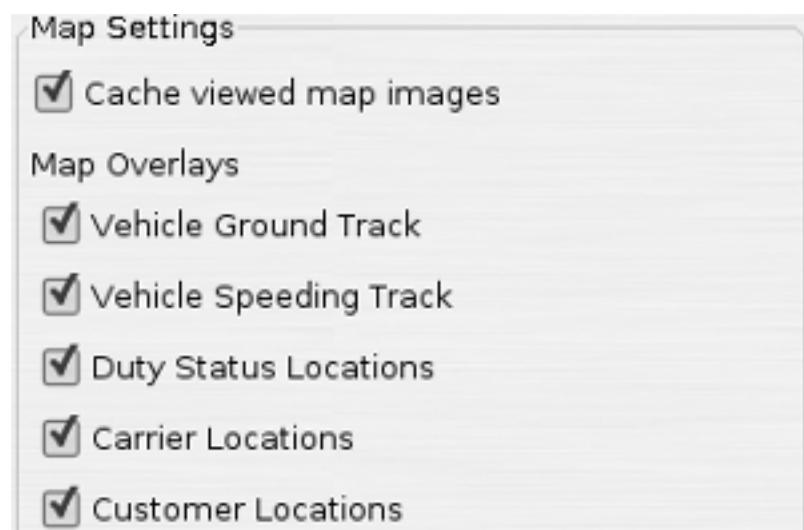

Figure 9.4. Map Settings
2. Under the "Map Settings" section see Figure 9.4, "Map Settings" each of the map overlay types is listed with a checkbox beside each. To disable a map overlay uncheck the checkbox beside that particular overlay type. To re-enable the overlay simply re-check the checkbox.
2. Under the "Map Settings" section see Figure 9.4, "Map Settings" the first item is a checkbox labeled "Cached viewed map images" when this box is checked map images will be cached locally on the drivers computer, to disable this feature uncheck this checkbox.